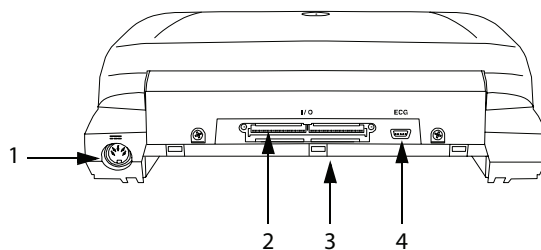

Figure 2 System Back Connectors:
- 1 Connect the DC power cable from the power supply to the connector on the system. See Figure 2 on page 1.